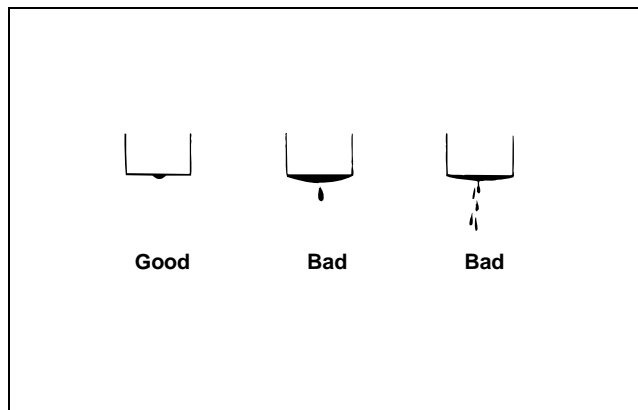

Figure 35
6. While pressure is being applied, watch for an accumulation of fuel at the tip of the nozzle (Fig. 35). A small amount of fuel may be present due to a previous chattering test - this would be normal. If the fuel accumulates and drips down during the test (about ten seconds) the nozzle assembly is defective and must be replaced.